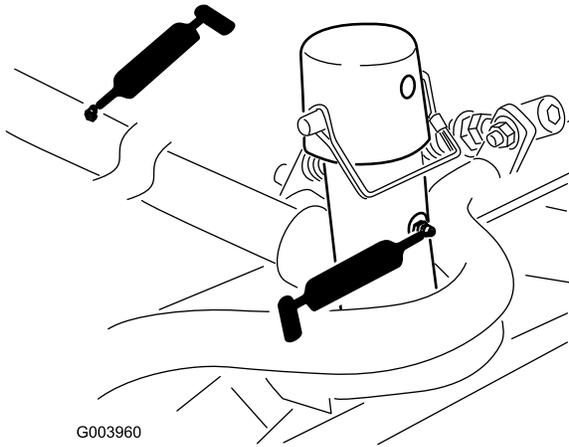

Figure 66
- Cutting-unit carrier-frame and pivot (2 each) (Figure 66)